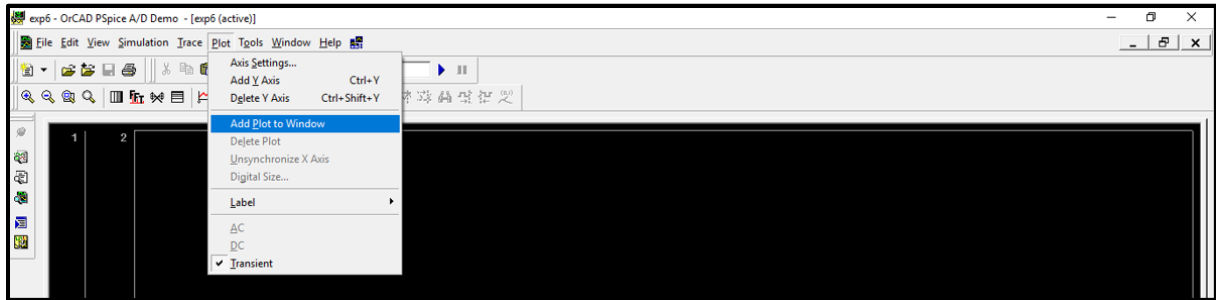

Figure.45
- Click on “plot”, then select “add y-axis”, note that you have different y-axes as shown in figure.45, you can move between axes by clicking on the axis you want to add a trace to.